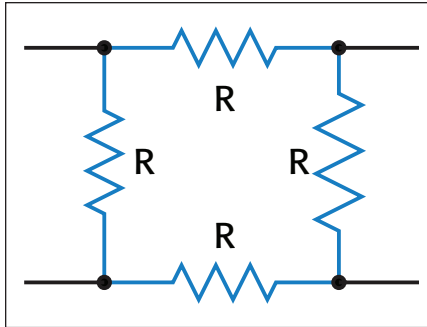

Figure 7. Test structure for verifying Hall effect system performance
- *Regularly verify the system's performance.* The simplest way to do this is to build a test structure using four resistors of equal value of similar magnitude to the sample's resistance (Figure 7). Compare measurements on the test structure with expected results.